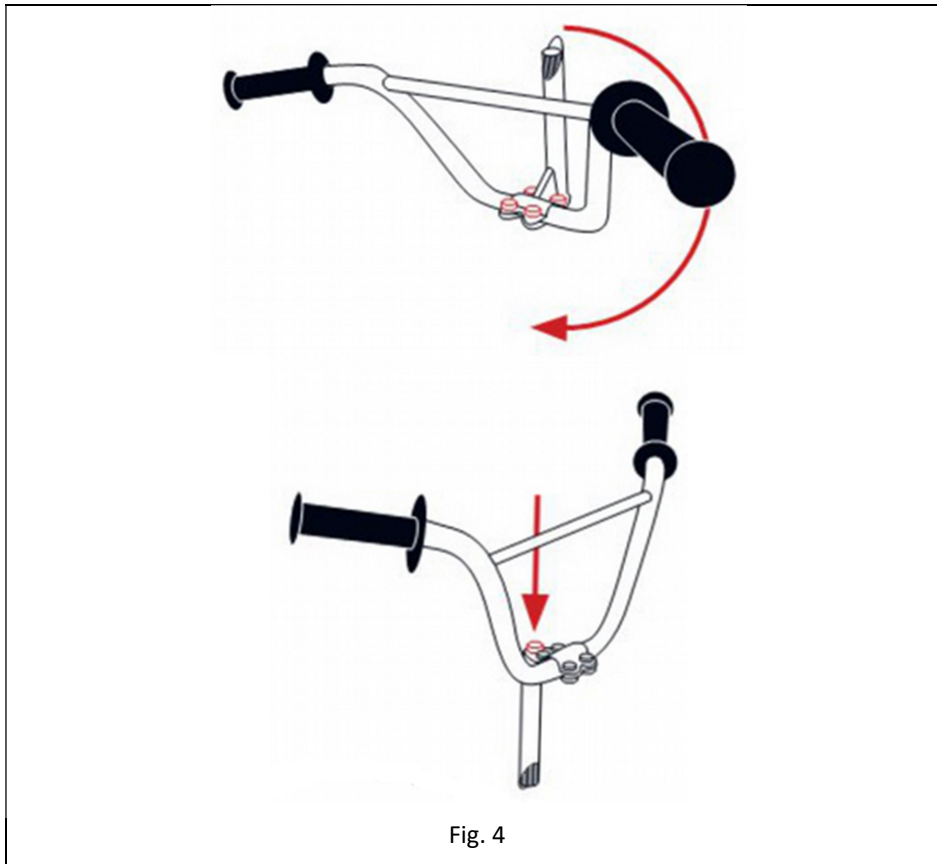
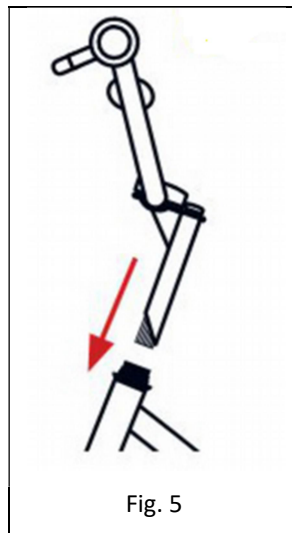

Fig. 4
Fig. 5
20. If the handlebar rod is pointing upwards, rotate it downwards and evenly tighten the four front piece screws (Fig. 4). If the front piece has not been previously attached, attach it to the handlebars and tighten all four front piece screws (Fig. 3). If your handlebars do not include a front piece, (i.e. the bars are welded directly to the handle bar rod), skip step 5.
21. Insert the handlebar rod into the handlebar tube (Fig. 5). Adjust the handlebar height to the rider's needs. The maximum extension height is marked on the handlebar rod. Make sure the axis of the handlebars is parallel to the axis of the front wheel and properly tighten the screw (Fig. 4).